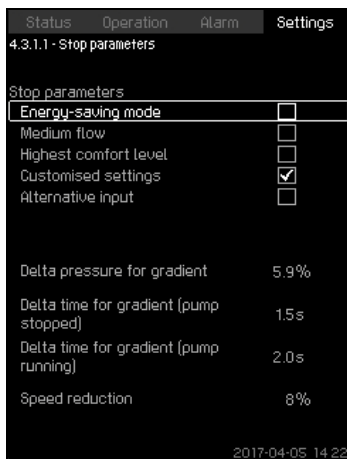

Fig. 68 Customised settings
3. Select one of the stop parameters. If you select "Customised settings", you must set the parameters shown in fig. 68. See the examples below.